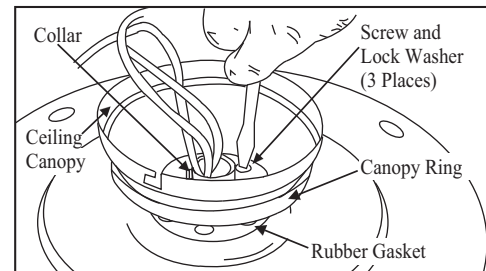

Figure 10
5. Route the wires exiting the top of the fan motor through the canopy ring (make sure the slot openings are on top), then proceed to place the ceiling canopy over the collar at the top of the motor. (Figure 10)
6. Align the mounting holes with the holes in the motor and fasten using the screws and lock washers removed in step 4 (Fig. 10).